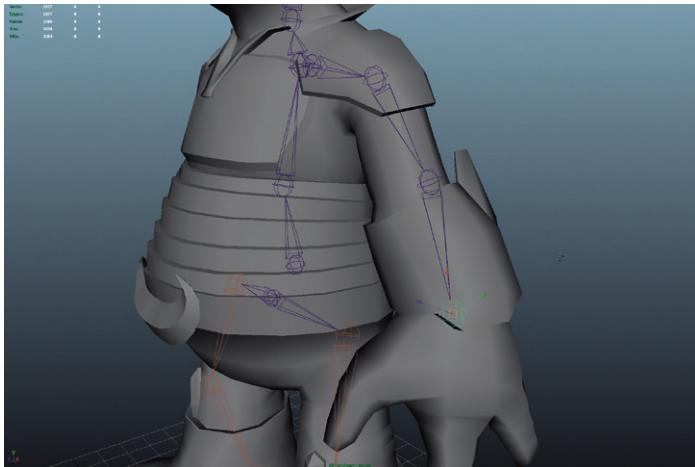

FIG 8.15 Shoulder, elbow, and wrist.
Step 21: Create the L_Shoulder, L_Elbow, and L_Wrist joints using the same technique. This means starting in the front View Panel by placing the joint, but using the side View Panel to middle-mouse-drag the joint into place (Fig. 8.15). Note, we are still in the Joint Tool.